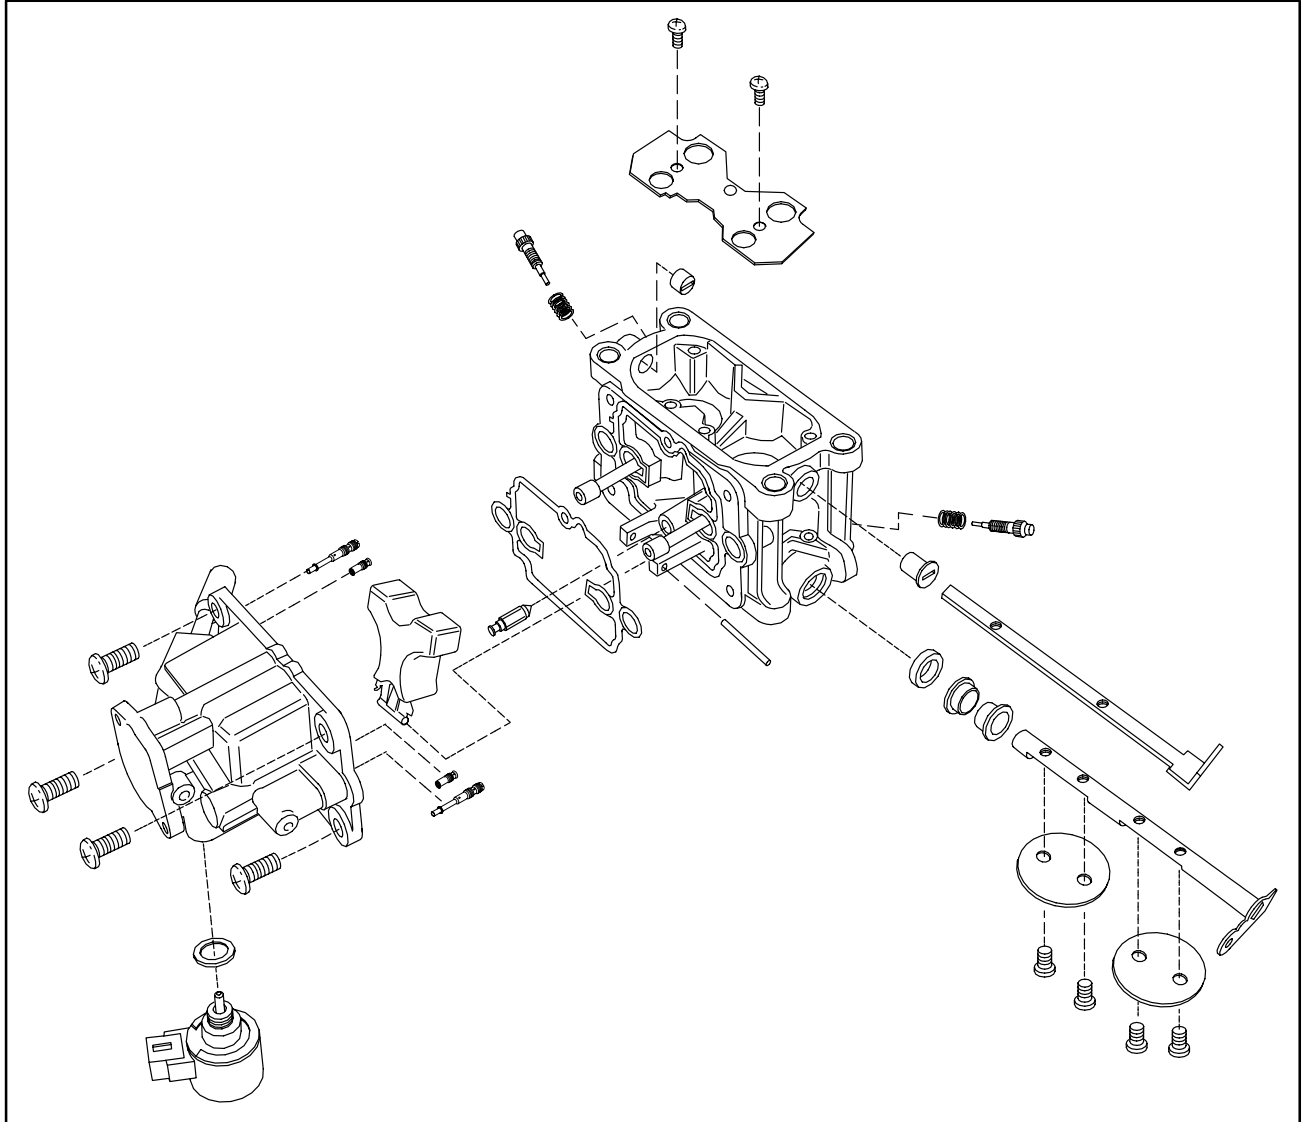

**Fig. 129**
8. Assemble bowl gasket (9) to body.
11. Assemble fuel solenoid (13) to float bowl (12), **Fig. 129**. Use a **13 mm** thin profile wrench to tighten the solenoid.